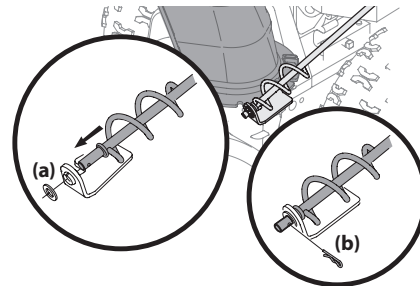

Figure 2-15
3. Remove plastic cap (if present), flat washer (a) and hairpin clip (b) from end of chute directional control assembly. See Figure 2-15.